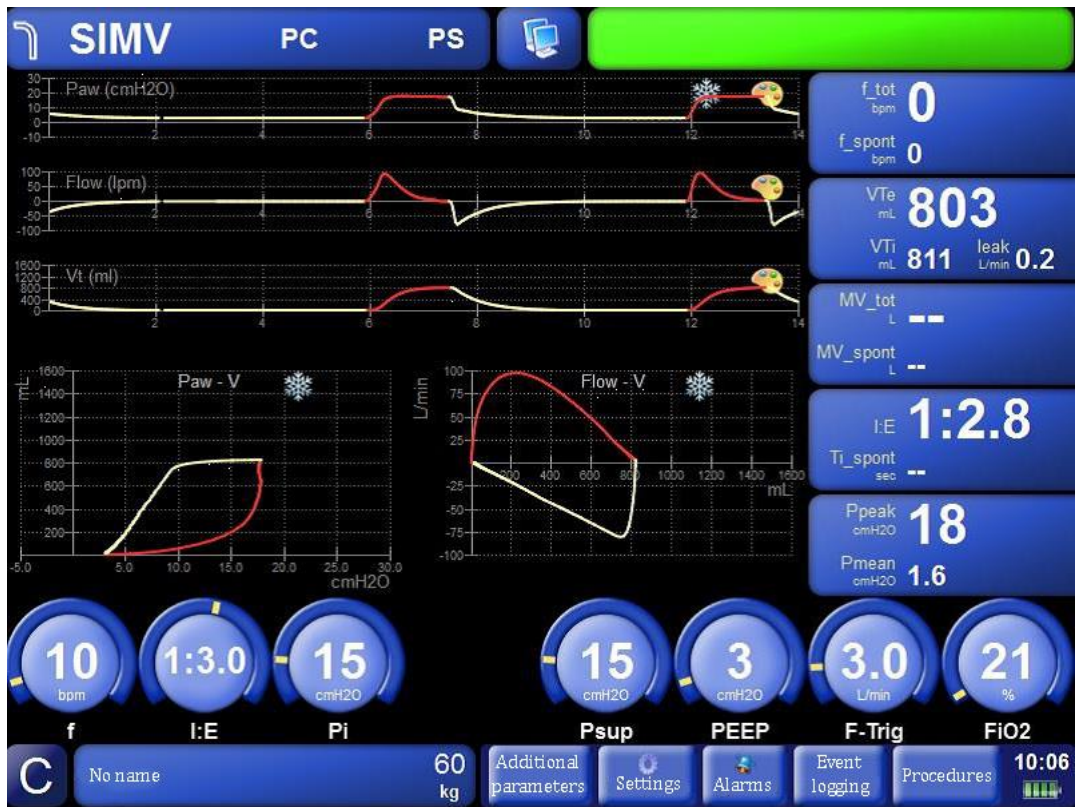

Figure 10.16 – “Multiscreen – curves, loops”
- Curves, loops (Figure 10.16),